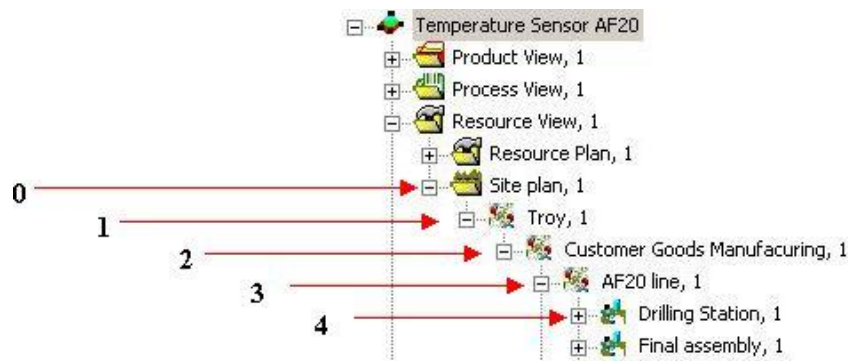
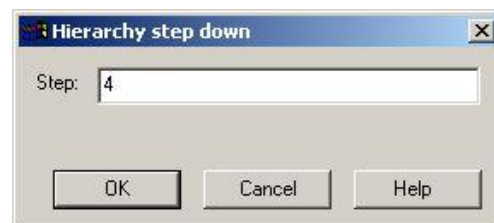

Figure 11: Example - Manufacturing Concept for Creating Several Levels
Figure 13: Dialog – Enter Hierarchical Levels
- If you enter **zero** in the dialog, (Please refer to the Figure 13), a manufacturing concept is created for this hierarchical level only. In the example it is (Please refer to the Figure 11) the hierarchical level **Location of New Plant**.